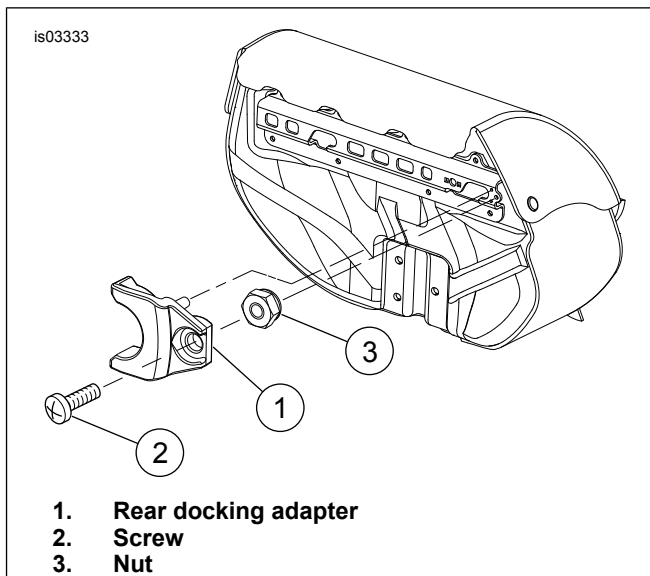

Figure 1. Install Rear Docking Adapter
1. See Figure 1. Insert rear docking adapter (1) into holes in saddlebag bracket and hold in place.
2. Install rear docking adapter using screw (2) and nut (3). Tighten snugly.